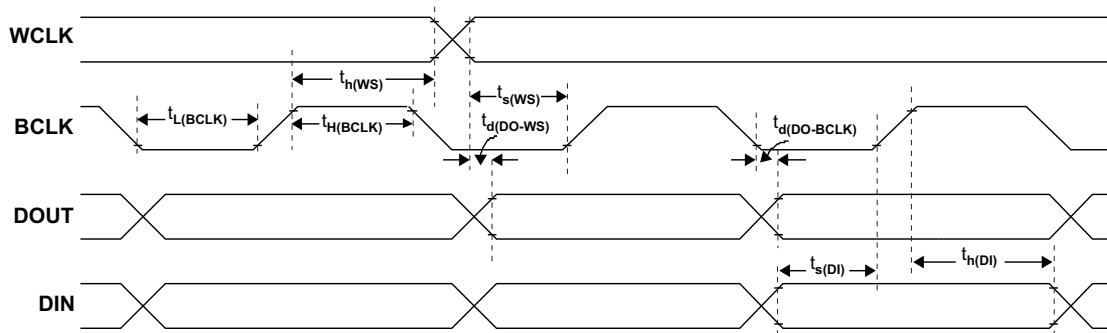

Figure 2. I2S/LJF/RJF Timing in Slave Mode
8.12 I2S/LJF/RJF Timing in Slave Mode (see Figure 2)